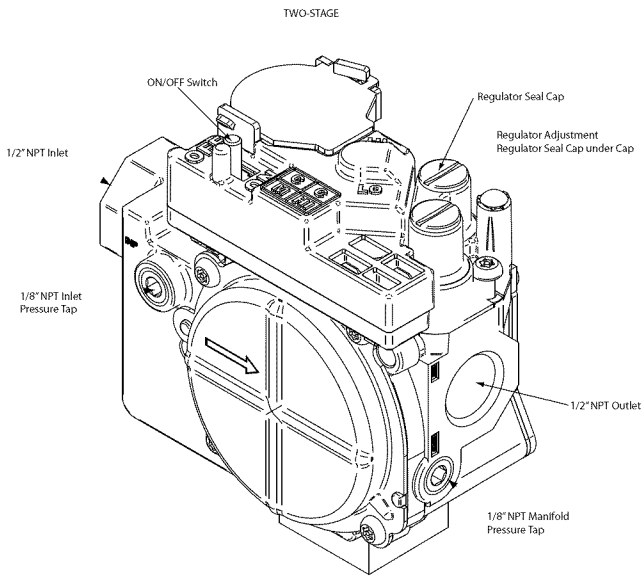

Fig. 51 - Gas Valve
- Remove regulator adjustment cap from high-heat gas valve pressure regulator (See Fig. 51) and turn high heat adjusting screw (3/16-in. or smaller flat-tipped screwdriver) counterclockwise (out) to decrease input rate or clockwise (in) to increase input rate.
- i. Re-install manifold pressure tap plug in gas valve. (See Fig. 51.)